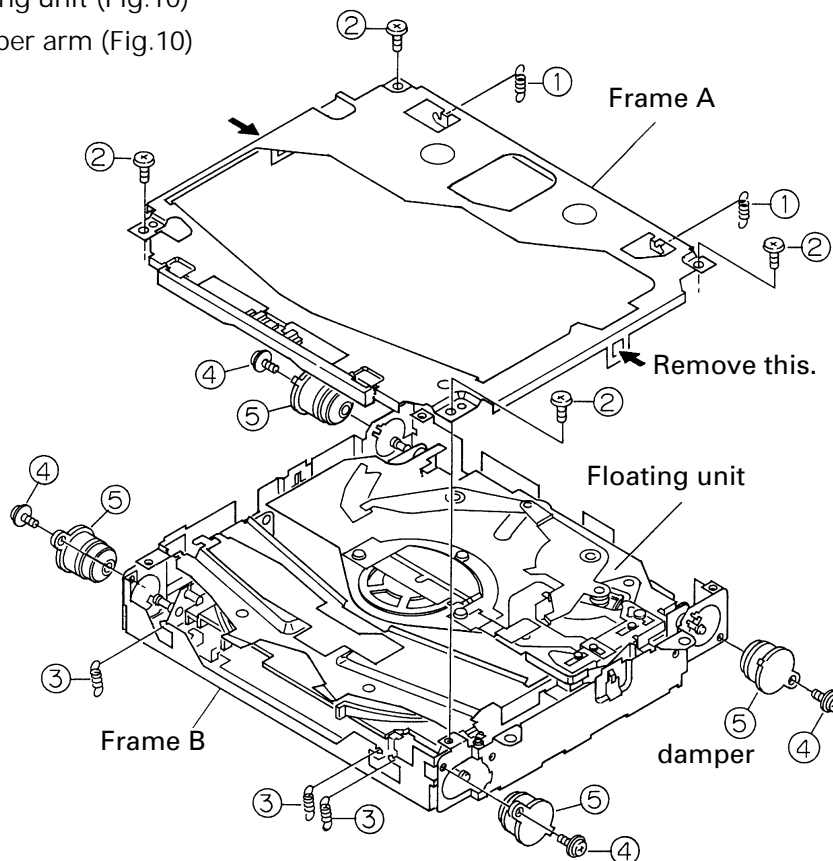

Fig.10
- Removing the damper and frame (Fig.10)
- Removing the floating unit (Fig.10)
- Removing the clamper arm (Fig.10)